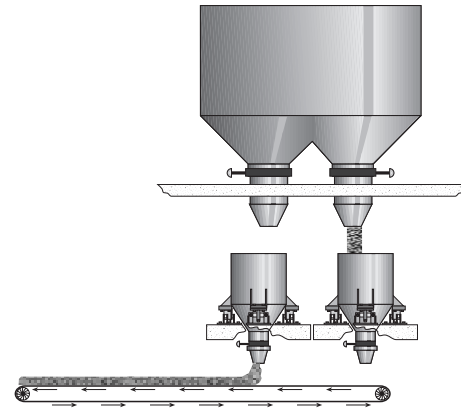

Figure 1-9
The systems described up to this point deliver a single material in pulses rather than from a continuous flow. They may be used for in-plant process weighing or custody transfer. Figures 1-9 and 1-10, described below, provide a continuous material flow and are more often used for process weighing.
- E.** Figure 1-9 illustrates a single storage silo with two weigh hoppers suspended underneath. This arrangement can be used to provide material continuously to a process. As one hopper is emptying, the other can be filling. If the system is sized correctly, there is no interruption to the material flow on the discharge belt.